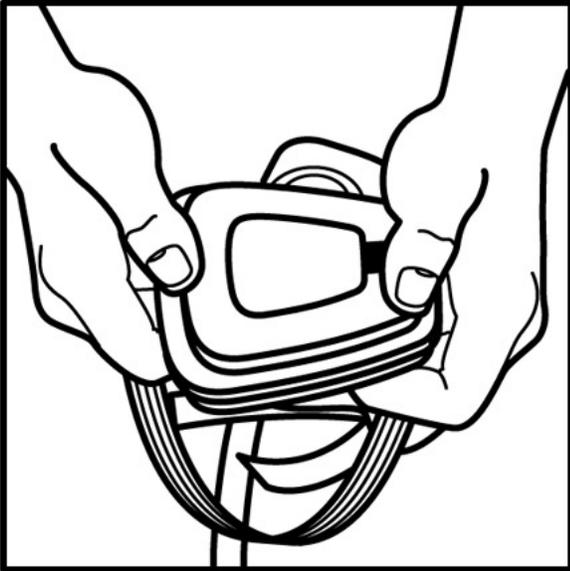

Fig. 2
2. Press the 501 (07054) filter retainer onto the cartridge. It should lock securely to the cartridge. The 5P71 (07194) filter **must** completely cover the face of the cartridge. (Fig. 2)